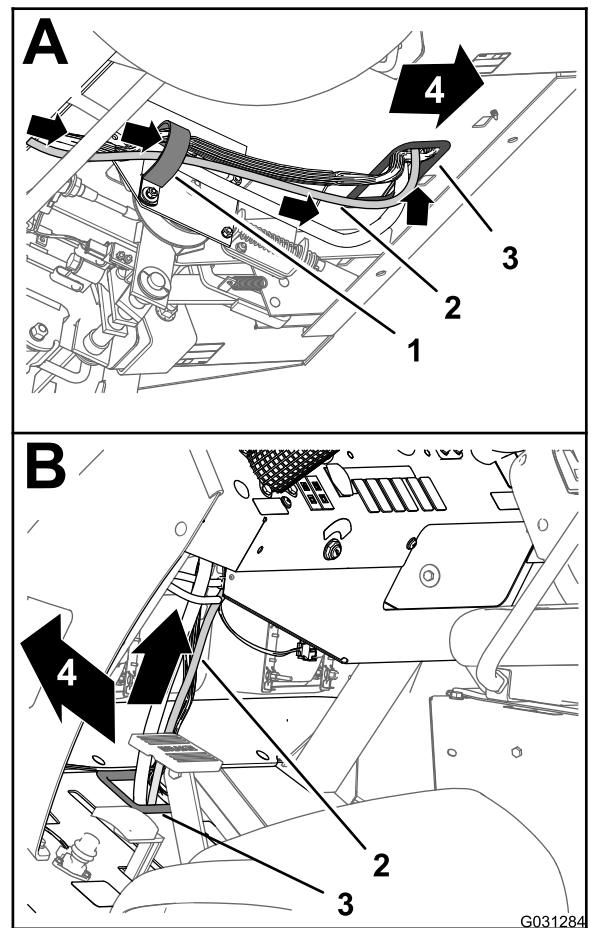

Figure 175
3. Route the route the 220 cm (86-5/8 inches) branch of the data harness forward and up through grommet that surrounds the hole in the floor panel (Figure 175).
4. Route the route the 220 cm (86-5/8 inches) branch of the data harness up and along the front wire harness of the machine (Figure 175).